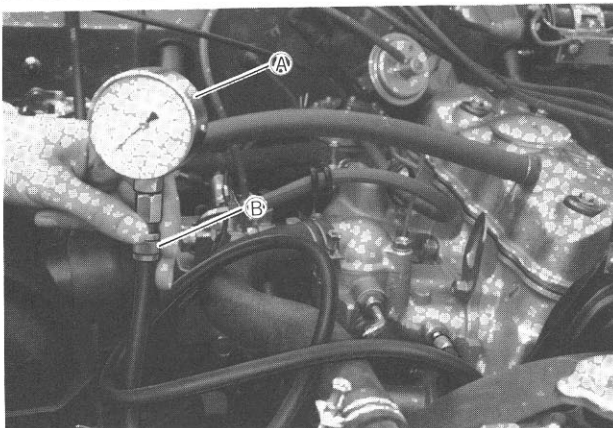

Fig. 3-155
- 2) Install the vacuum gauge **(A)** (09915-67310), as shown in Fig. 3-155. Install an engine tachometer.